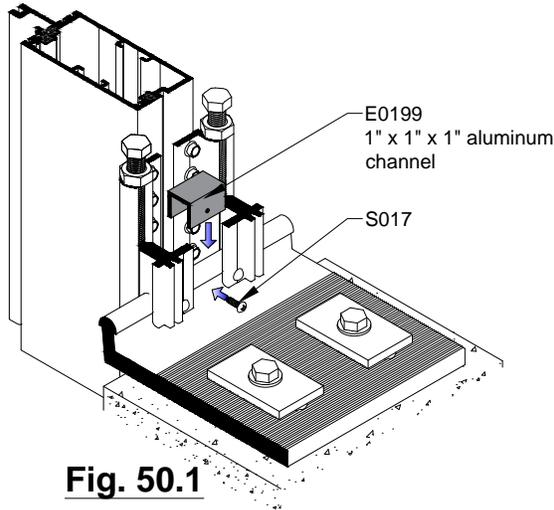

Fig. 50.1
- a. **Top of Slab Anchor:** When all adjustments have been made, install E0199 1" x 1" x 1" channel between P4765 anchor shoes to lock in place. Cut length should be snug and is determined by field conditions. Attach channel to anchor plate ball with S017 #10 x 5/8" PH. See Fig. 50.1.